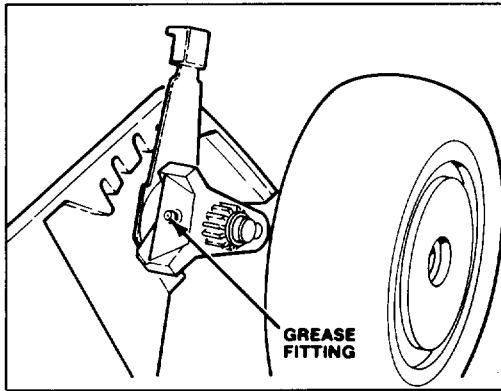

Figure 17
2. **GREASE FRONT AXLE PIVOTS** (Fig. 17) — Adjust height-of-cut to 3-inch setting and loosen wheel bolt to get additional clearance around grease fitting. Wipe grease fitting with clean rag. Install grease gun onto fitting and gently apply 2 or 3 pumps of #2 Multi-Purpose Lithium Base Grease. Excess pressure may damage seals.